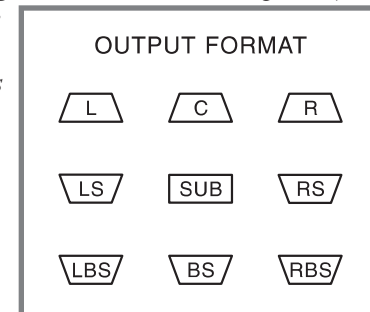

Figure 59
I. The OUTPUT FORMAT LEDs indicate the SURROUND MODE selected and the active audio channels. Refer to figure 59.